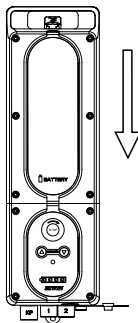

Fig. 3
2.2.1 Before reinstalling a cover of battery box on a support, please lightly tighten screw B (Fig. 3) so that a cover of battery box will not shake while embedding the whole device.